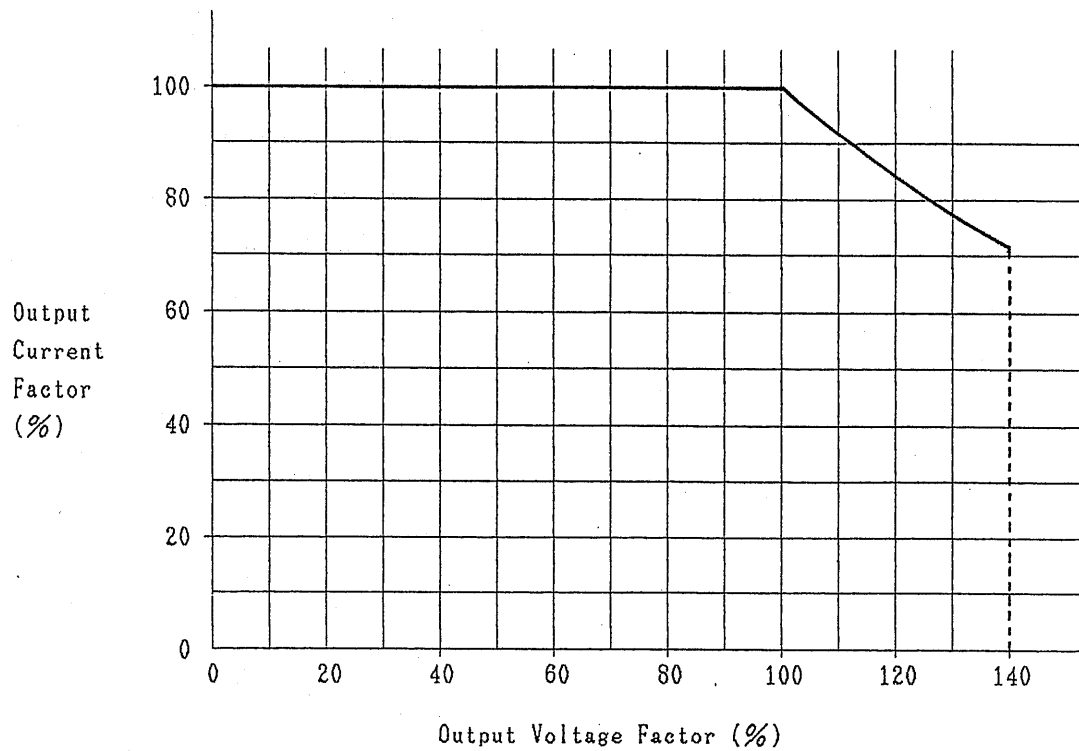
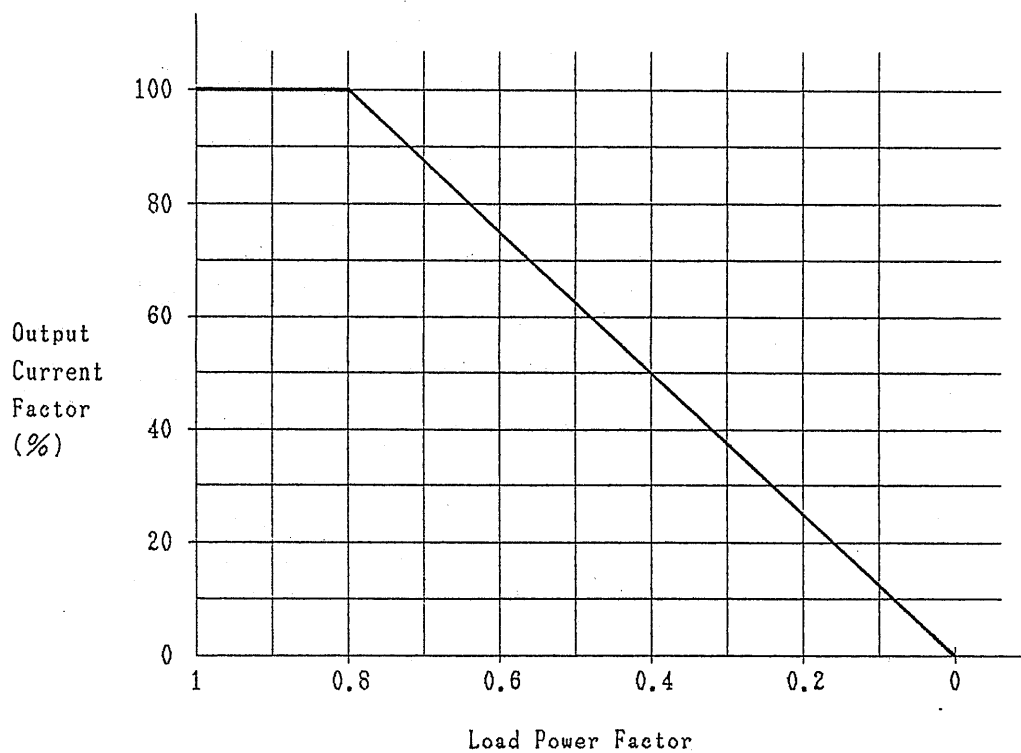
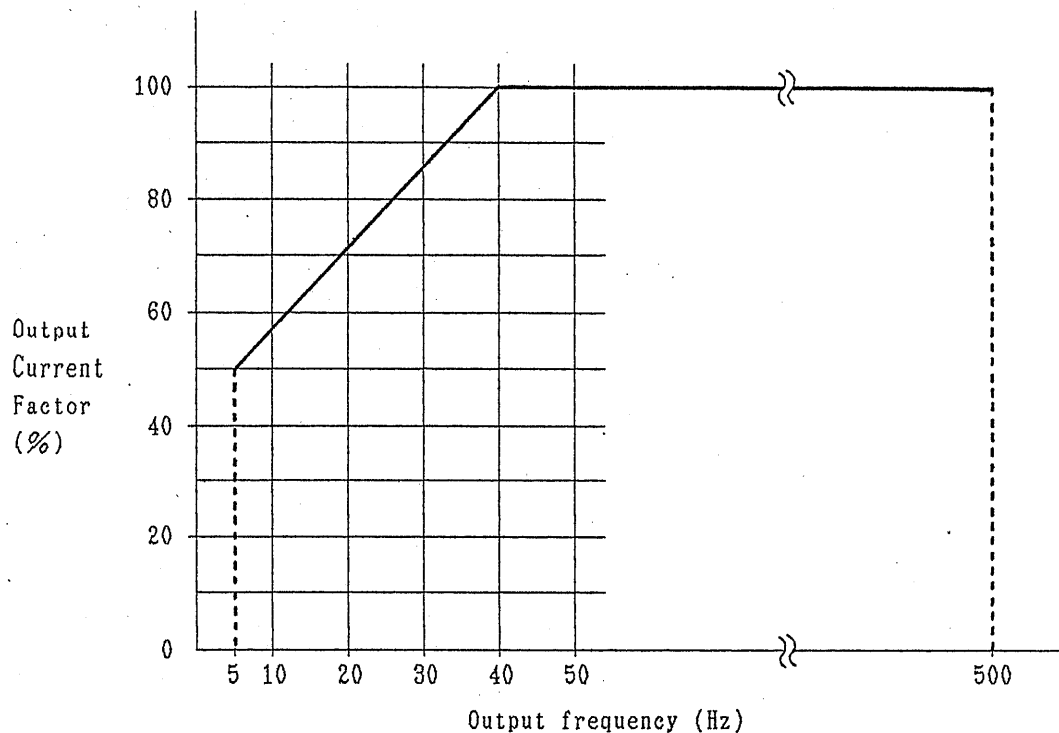

Figure 2-1-1. Output Voltage Factor vs. Output Current Factor
Figure 2-1-2. Load Power Factor vs. Output Current Factor
Figure 2-1-3. Output Frequency vs. Output Current factor
- (*3): When the output voltage is 1 - 100 V or 2 - 200 V and the load power factor is 0.8 - 1. (When the output voltage is 100 - 140 V or 200 - 280 V, the output current is reduced depending on the output voltage as shown in Figure 2-1-1. When the load power factor is 0 - 0.8, the output current is reduced depending on the load power factor as shown in Figure 2-1-2. When the output frequency is 5 - 40 Hz, the output current is reduced depending on the output frequency as shown in Figure 2-1-3.)
- (*5): Resolution (1) 0.01 Hz for 5.00 - 100.0 Hz range or (2) 0.1 Hz for 100.0 - 500.0 Hz range.
3. The maximum allowable output current can be calculated by multiplying the rated output current by the output current percentages found in Figures 2-1-1 and 2-1-2. The maximum allowable current calculated employing the percentage found in Figure 2-1-3 has a priority over the above-calculated rating when this calculated value is smaller than the above-calculated value. For details, see Section 3.3.